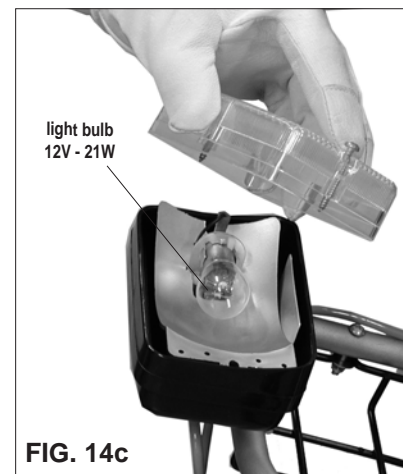

FIG. 14c
- Turn worklight upwards and remove the two screws in the lens (Fig. 14c) using a screwdriver.